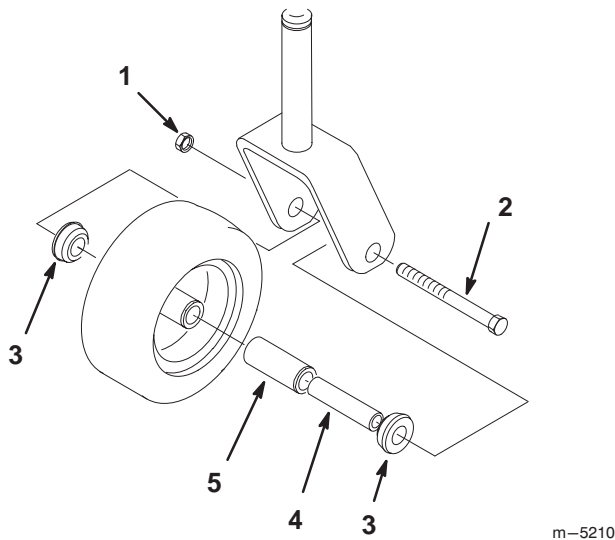

Figure 66
1. Remove the locknut and wheel bolt holding the caster wheel to the caster fork (Fig. 66).
2. Remove one bushing, then pull the spanner bushing and roller bearing out of the wheel hub (Fig. 66).
3. Remove the other bushing from the wheel hub and clean any grease and dirt from the wheel hub (Fig. 66).
4. Inspect the roller bearing, bushings, spanner bushing and inside of the wheel hub for wear. Replace any defective or worn parts (Fig. 66).
5. To assemble, place one (1) bushing into the wheel hub. Grease the roller bearing and spanner bushing and slide them into the wheel hub. Place the second bushing into the wheel hub (Fig. 66).
6. Install the caster wheel into the caster fork and secure with the wheel bolt and locknut. Tighten the locknut until the spanner bushing bottoms against the inside of the caster forks (Fig. 66).